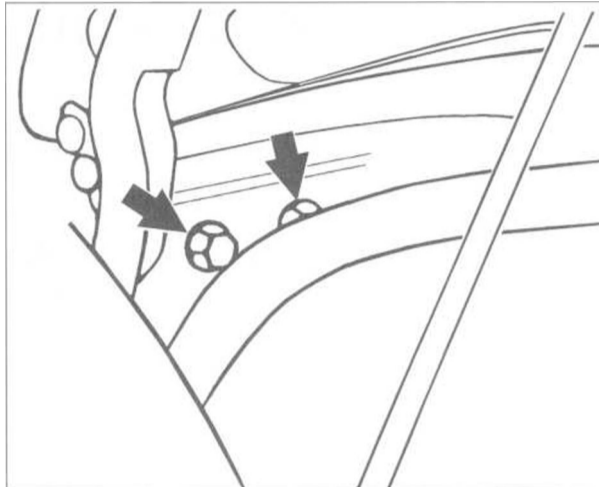

Fig. 4. Left tailgate hinge mounting bolts (arrows).
5. While supporting tailgate, remove hinge bolts from tailgate on left and right sides. See Fig. 4.